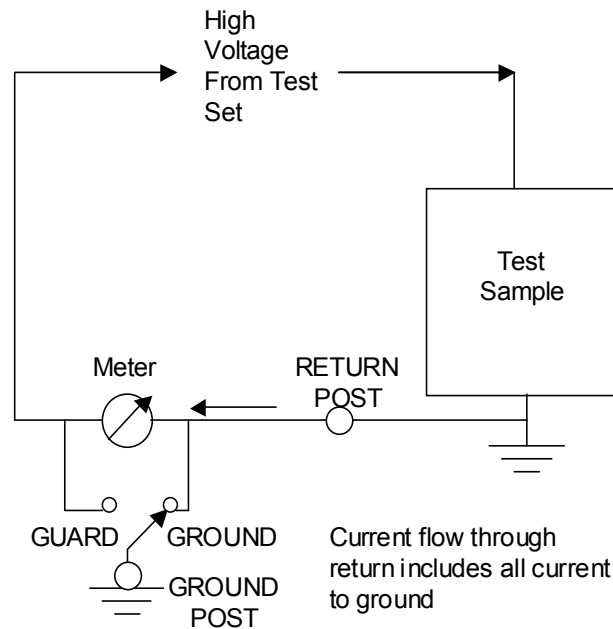

Figure 2, Grounded Return Diagram
- 1. Grounded Return-** With the output return in the grounded mode, the current meter reads all current to ground, internal and external to the power supply. This current might include corona, surface tracking, and any shunt resistance. The typical diagram for grounded return operation is shown in **Figure 2** below.